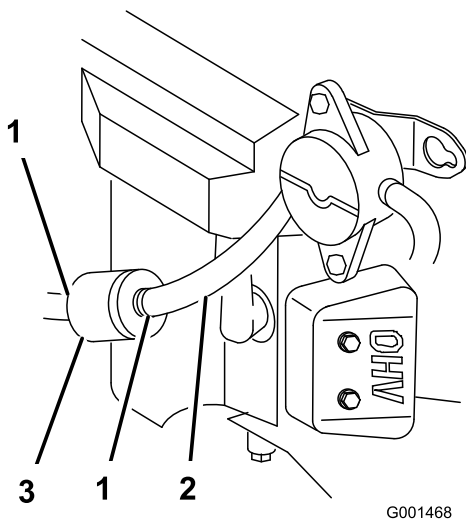

Figure 32
4. Squeeze the ends of the hose clamps together and slide them away from the filter (Figure 32).